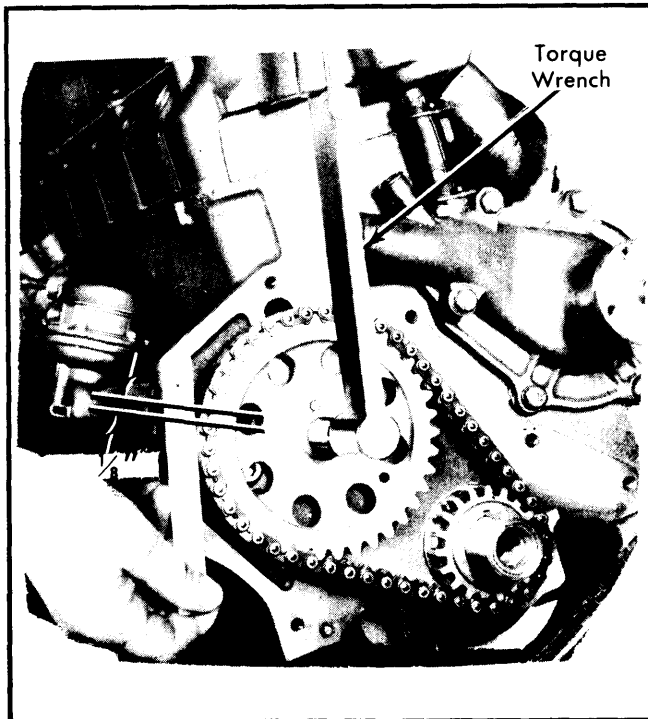

Fig. 12 Measuring Timing Chain Stretch
**Checking For Stretch** – 1) Position scale next to timing chain, to measure any movement of the chain. Place torque wrench with socket over camshaft sprocket lock bolt and apply torque in direction of crankshaft rotation to remove slack. See Fig. 12.